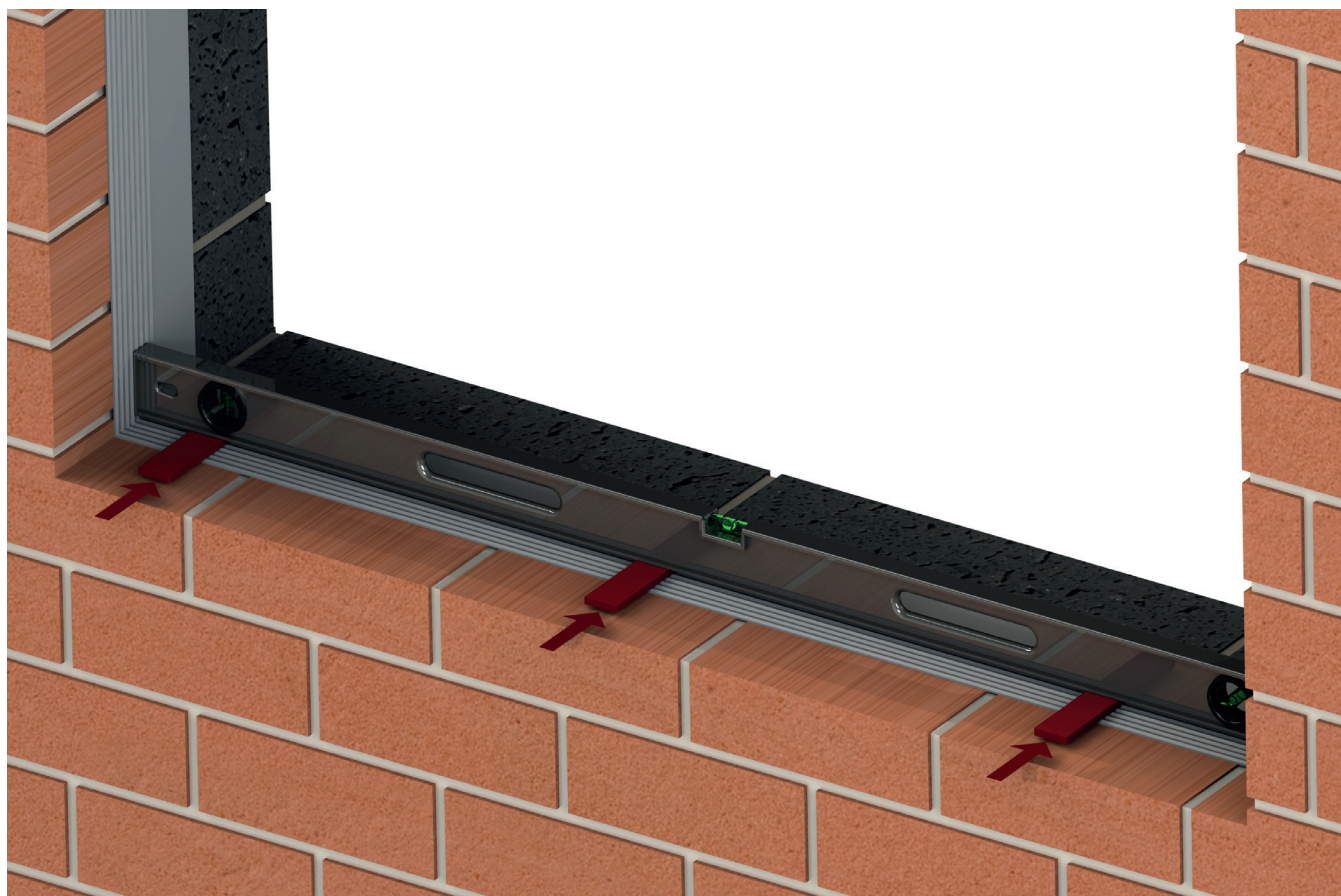

FIG 1
- ▶ **1.1.** Place the correct frame shims along the bottom of the opening to create a level, well supported platform for the window to sit. (Fig.1). Each shim should be placed in line with the pre-drilled fixing hole in the window frame.